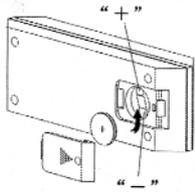

Figure 1
1. Remove the battery cover. (Fig.1)